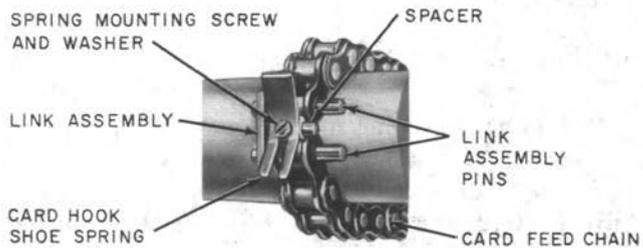

Fig. 48—Card Hook Shoe Spring and Link Assembly (Viewed From Rear of Perforator)
3.56 Card Hook Shoe Spring: To replace a card hook shoe spring (Fig. 48), proceed as follows.
- (1) Position the card hook shoe in accordance with 3.55.
- (2) Make a mark on the end of the shoe farthest from the chain guide channel using a china marking pencil.
- (3) Remove the card hook shoe in accordance with 3.55.
- (4) Remove the spring mounting screw and washer using the 3-inch C screwdriver.
- (5) Remove the spring.
- (6) Apply a small amount of KS-6824 sealing compound to the mounting screw threads using the KS-14164 brush.
- (7) Mount the screw and washer loosely in place.
- (8) Substitute the replacement spring with the split end down and positioned as shown in Fig. 48.
- (12) Mount the replacement card hook shoe assembly in the chain and make sure the snap ring is on the same side as the snap rings on the other card hook assemblies.
- (13) Remount the card hook shoe spring and shoe in accordance with 3.55 and 3.56.
- (14) Tilt the punch and card feed assembly in the opposite direction, as shown in Fig. 48, to gain access to farthest chain guide channel end from the drive shaft.